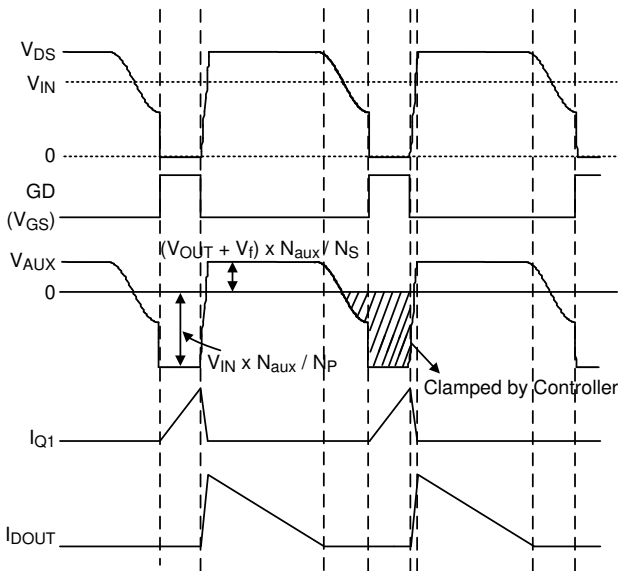

Figure 3. Key Waveforms of a Flyback Converter
The RT7306D needs no shunt regulator and opto-coupler at the secondary side to achieve the output current regulation. Figure 3 shows several key waveforms of a conventional flyback converter in Quasi-Resonant (QR) mode, in which  $V_{AUX}$  is the voltage on the auxiliary winding of the transformer.